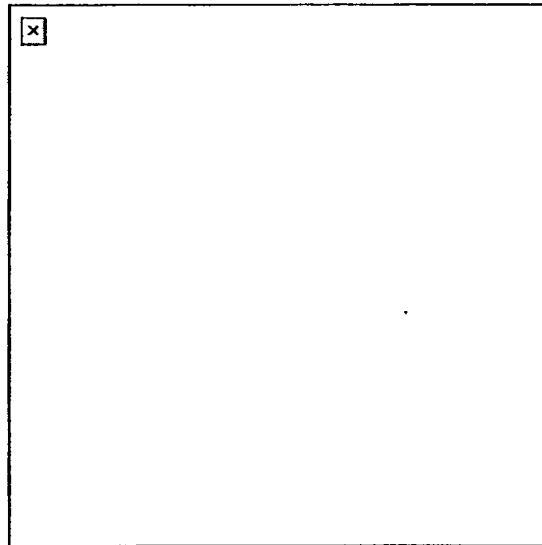

Figure 9. Installation of MK 19 on gun mount.
6. Install the MK 19 machine gun (Figure 9).